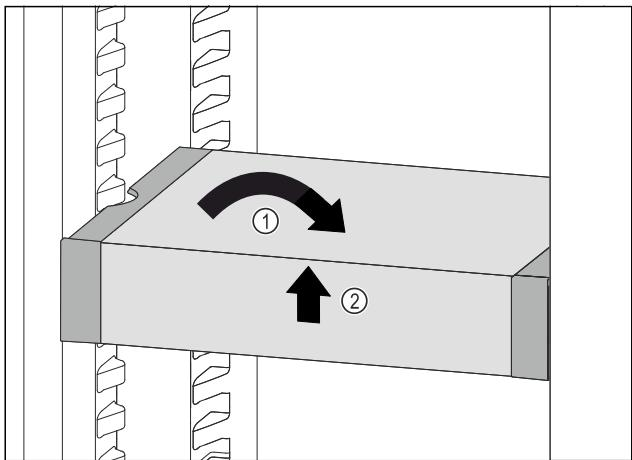

Fig. 83
- ▶ Set VarioSafe straight. *Fig. 83 (1)*
- ▶ Lift VarioSafe at the front. *Fig. 83 (2)*